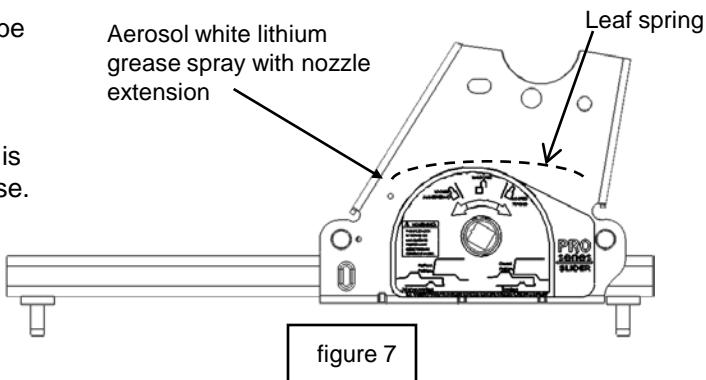

figure 7
2. Before installing the Pro Slider, leaf spring must be greased as shown using white lithium grease or equivalent (see figure 7). For best results, use aerosol white lithium grease with a spray nozzle extension. Make sure entire underside of spring is coated! Repeat this application monthly during use.